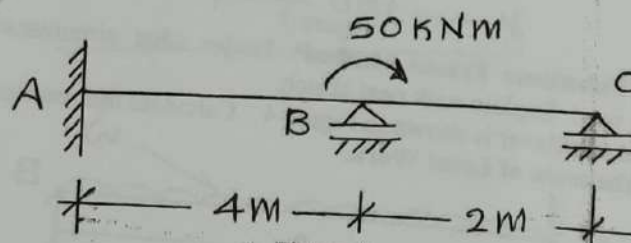

Figure 7
- Q4 a) Analyse the two span prismatic beam continuous beam shown in Figure 7 with a moment applied at the joint B, by the **Moment Distribution Method**. Draw BMD. 10